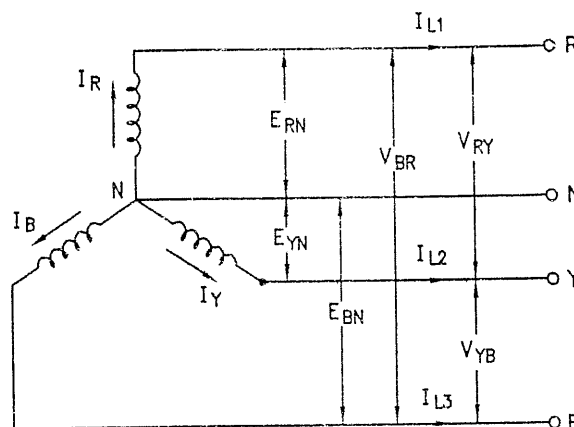

FIG. 2.80 : 3-PHASE, 4-WIRE BALANCED SYSTEM
- Consider Fig. 2.80.
(2) Line Voltage :
- It is the voltage measured between any two lines of the supply system. is denoted by V_L . w.r.t. Fig. 2.80,
(3) Phase Current :
- The current flowing in each phase winding is called the phase current. It is denoted by I_{ph} . w.r.t. Fig. 2.80,
(4) Line Current :
- The current flowing in each line is called the line current. It is denoted by I_L . w.r.t. Fig. 2.80.
(1) Line voltage and phase voltage (2) Line current and phase current [December-2016, 4-Marks]
- Fig. 2.80 shows a 3-phase, 4-wire balanced system.
From Fig. 2.80, it is clear that
- It is seen from Fig. 2.80 that in star connection, there are two phase windings between each pair of line terminals.
- From Fig. 2.80 the line voltages can be obtained from the phase voltages as shown below.